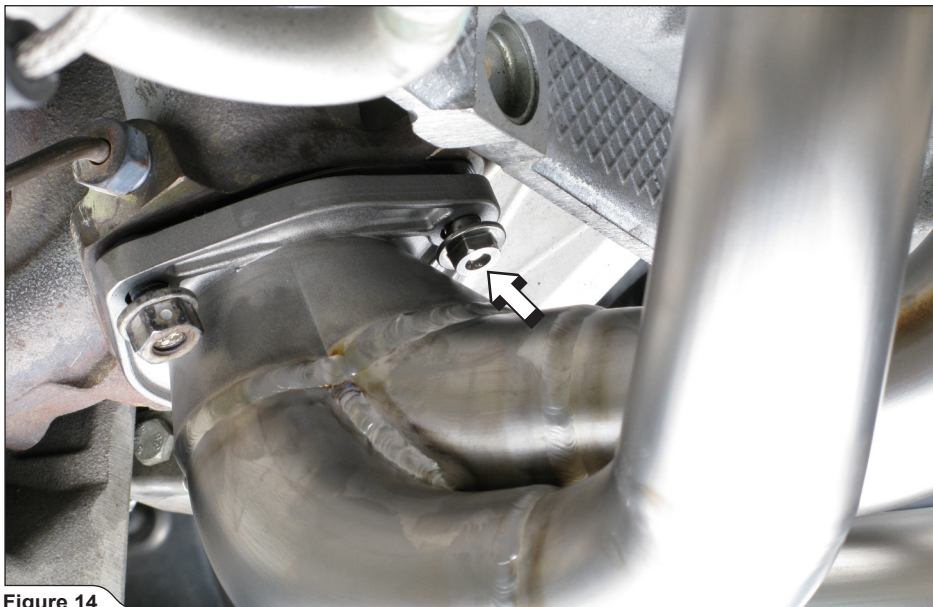

Figure 14
- ! **WARNING:** use additional Akrapovič titanium bolt on the **LEFT** turbine (**Figure 14**)!